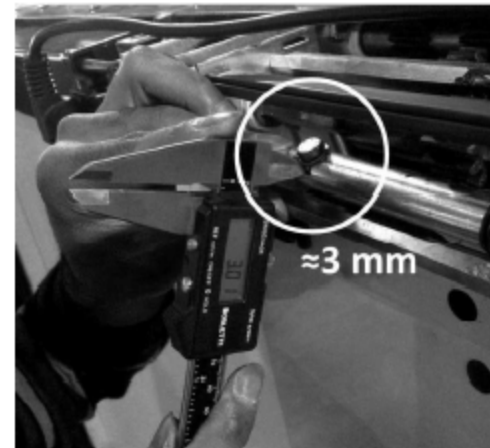

Figure 4-12
- 5) The optimal position should be when the cavity below the fastening screw measures approximately 3 mm (fig. 4-12).
- 6) Once the adjustment is completed, hold pin (B) and fasten screw (A) with a 10 mm wrench.